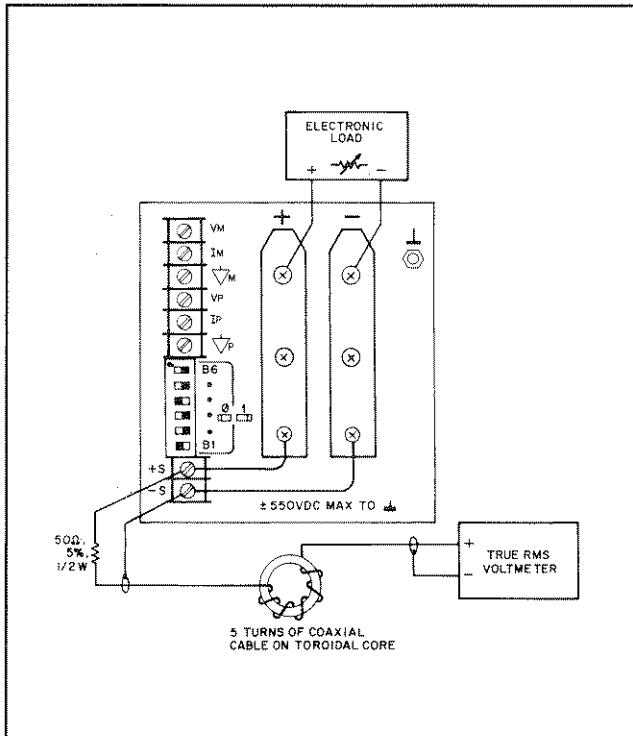

Figure 5-3. RMS Measurement Test Setup, CV PARD
Test Points: See Figure 5-3
- a. Connect the test equipment as shown in Figure 5-3. Operate the electronic load in constant resistance mode (Amps/Volt) and set resistance to maximum.
*Use common mode choke as in Figure 5-3 to reduce ground loop currents from interfering with measurement. Reduce noise pickup on the test leads by using 50 Ω coaxial cable, and wind it 5 turns through the magnetic core to form the common-mode choke.*